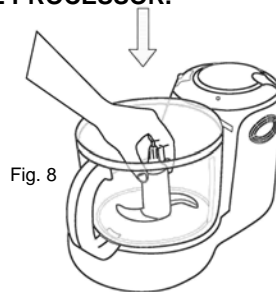

Fig. 8
- Fit the dough blade over the spindle and press firmly into place. (Fig. 8)